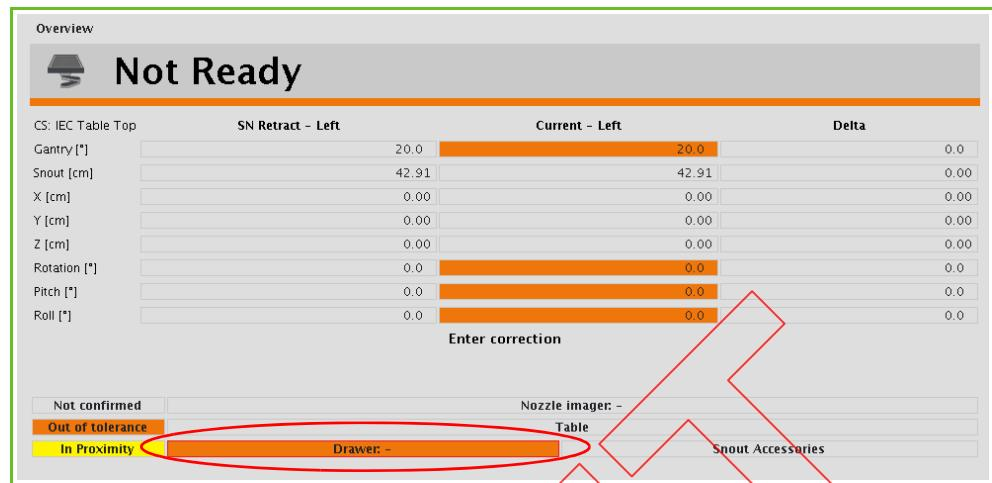

Figure 43-12. PMS Interface Panel, with Blocking Selection
**Orange, with a red frame:** these settings are blocking, even in Physics mode (see Figure 43-12, where the drawer is still in the beam path).